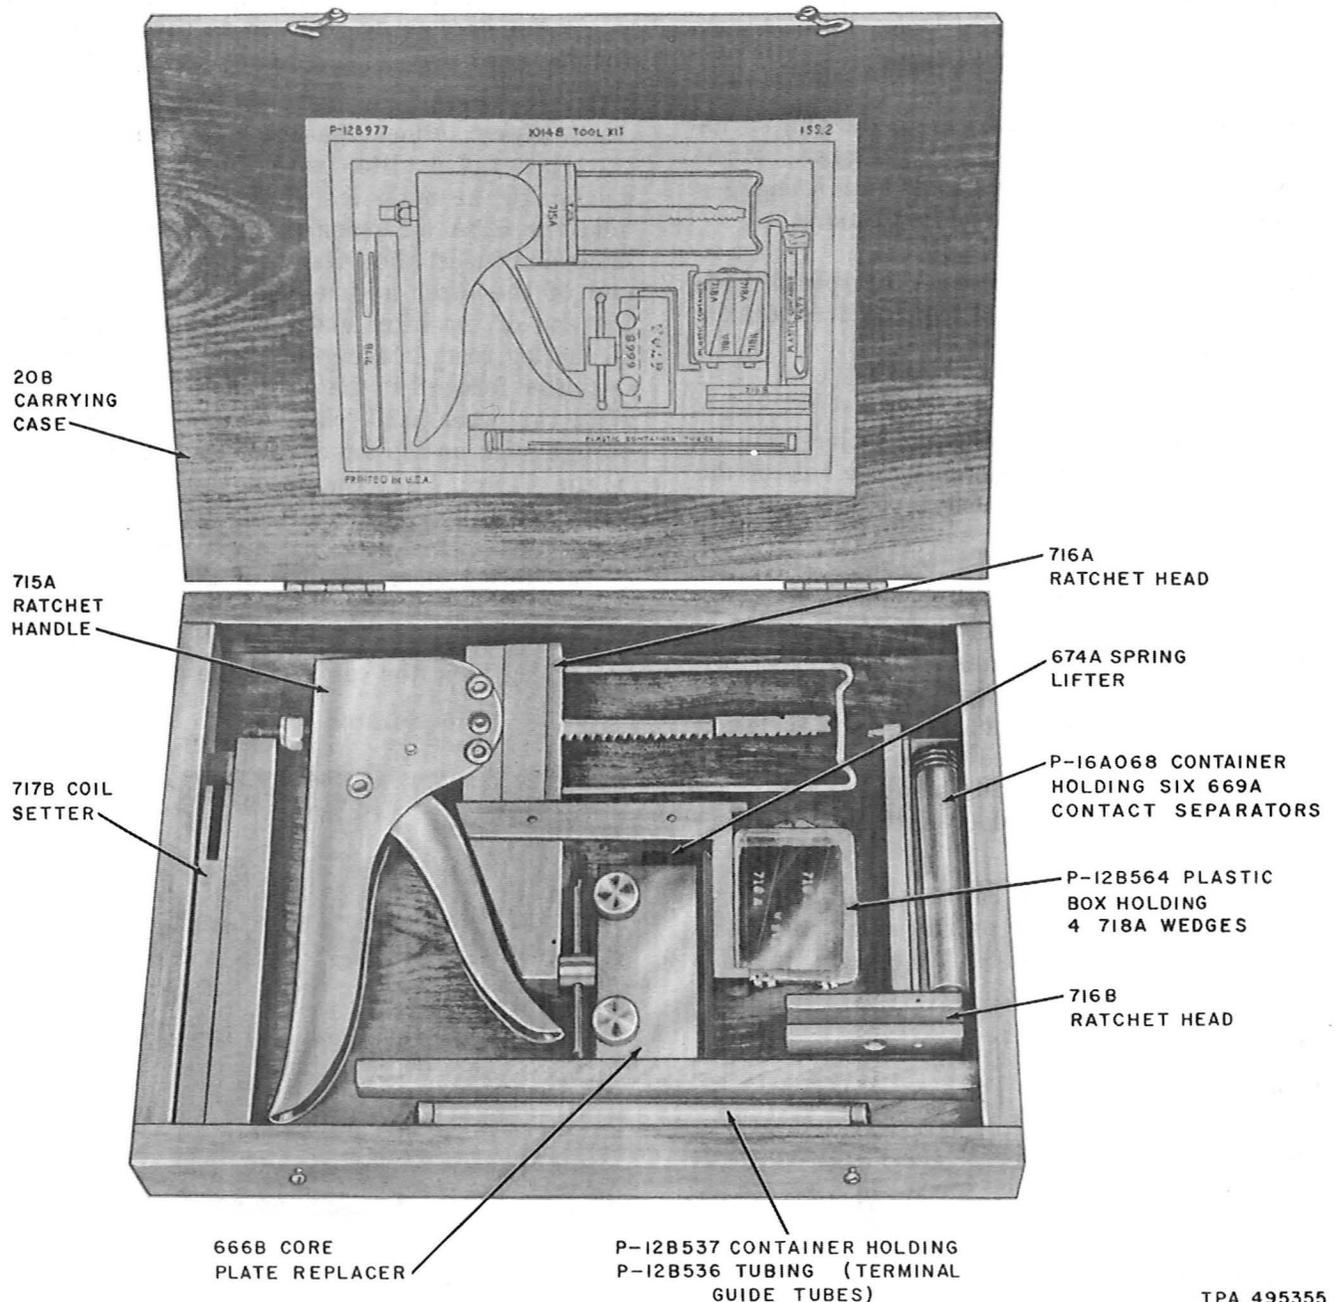

Fig. 24—1014B Tool Kit
4.02 1014B Tool Kit: Fig. 24 shows the tools comprising the 1014B tool kit used for replacing coils on wire-spring type relays. The 716A ratchet head, 666B core plate replacer, 669A separators, and the 674A spring lifter furnished with the tool kit are not required for AK-type relays. The 716A ratchet head is used for AF-, AG-, AJ-, 286-, 287-, and 288-type relays. The